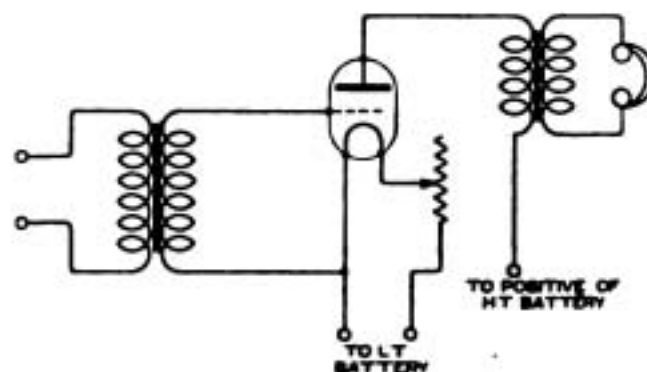

Fig. 4.
**"CITROEN" (Gloucester)** asks (1) for the best receiving valve regardless of price. (2) If a 6-volt, 30 amp-hour accumulator is suitable for lighting filaments. (3) The best form of coils to use. (4) Diagram of a single valve set.
(1) A true French type, or R type, is probably the best for general purposes.
(2) Yes.
(3) For a short wave set, coils on cylindrical formers are the best. For waves above 3,000 ms., honeycomb or similar coils are generally more convenient.
(4) Fig. 4, page 526, November 12th issue, shows a good circuit, in which two valves may be used if required.
**"BEGINNER" (Merrow)** refers to the school wireless set in the October 29th issue, and asks (1) The wavelength range. (2) The resistance of the telephones. (3) If, when two pairs of telephones are joined in series, the results will be the same. (4) The meaning of A.T.I.
**P.M.P. (Southport)** asks (1) *How to add another valve on a separate panel to a Marconi M9 panel.* (2) *If common L.T. and H.T. batteries may be used.* (3) *For receiver winding for 1,700 ms.*
(1) If you wish for a separate panel it will be best to use L.F. On the old panel connect the H.T. battery where the telephones are shown. Then put the primary of an intervalve transformer where the battery was shown. The amplifier connections are shown in the diagram (Fig. 4).